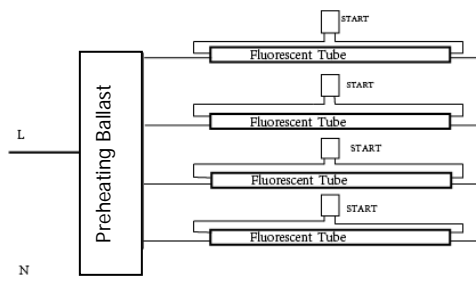
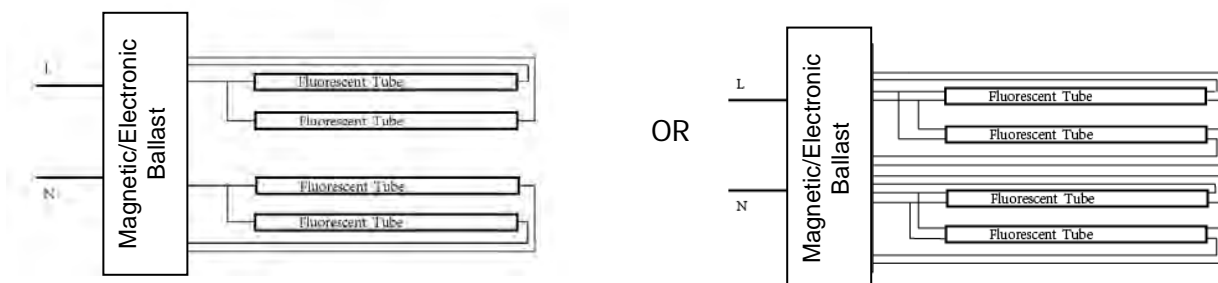

Fig. 1 (Existing Preheating Ballast)
Fig. 2 (Existing Magnetic/Electric Ballast)
STEP 3: Check if the LED tubes rating parameters can be replaced in this luminaire, below is the original wiring drawing, shown as below Fig. 1 (Preheating Ballast) or Fig. 2 (Magnetic/Electronic Ballast):